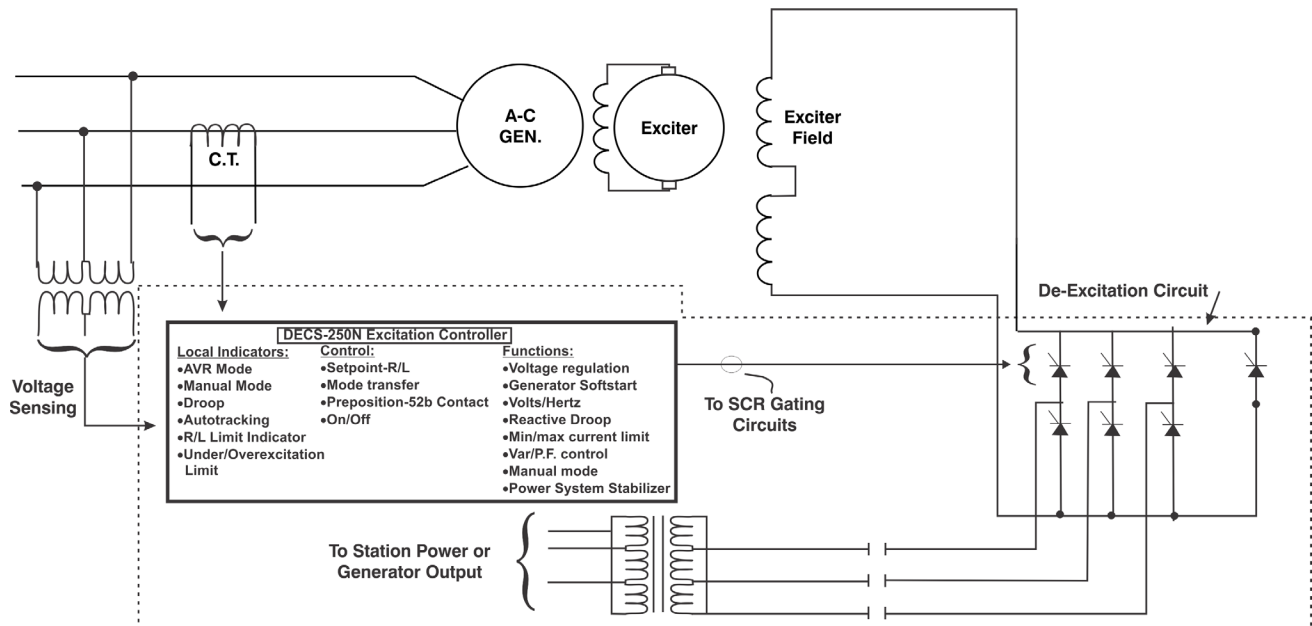

Figure 7: New DECS-250N voltage regulator interface with rotating exciter field.
2. The use of the Amplidyne can be eliminated and instead, a new voltage regulator system can be provided. The new system works directly into the exciter field using a DECS-250N (Negative Field forcing) for fields 20 Adc and below, while the DECS-450 works for fields greater than 20 Adc. See Figure 7.
For some systems, where the rotating exciter is in good condition and only the Amplidyne excitation system has operational problems, an alternative solution may be to retain the rotating exciter and utilize only the exciter shunt field. The new excitation system will eliminate the need for the Amplidyne, the rheostat, and the existing voltage regulator system. Figure 7 illustrates the changes involved with a new DECS-250N voltage regulator excitation system.
Although most of these systems derive power from the station bus, the new excitation system also may derive its power from the generator output, as shown in Figure 7. The power potential transformer primary voltage matches the generator output while the secondary voltage matches